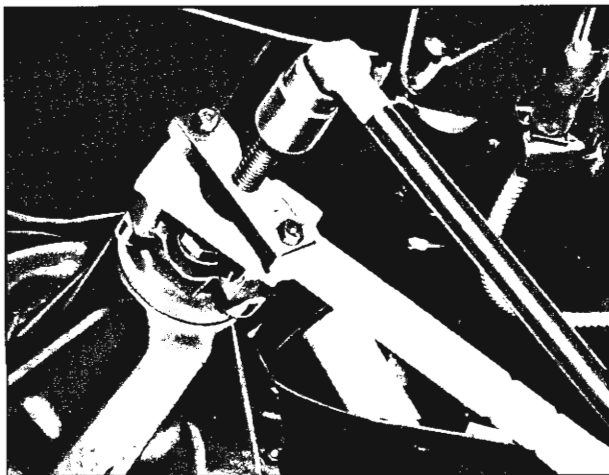

Fig. 9—Removing Companion Flange
6. Remove drive flange using Tool J-0820 bolted over holding Tool J-2637 (fig. 9). Pry old oil seal out, using a screwdriver or hammer and chisel.